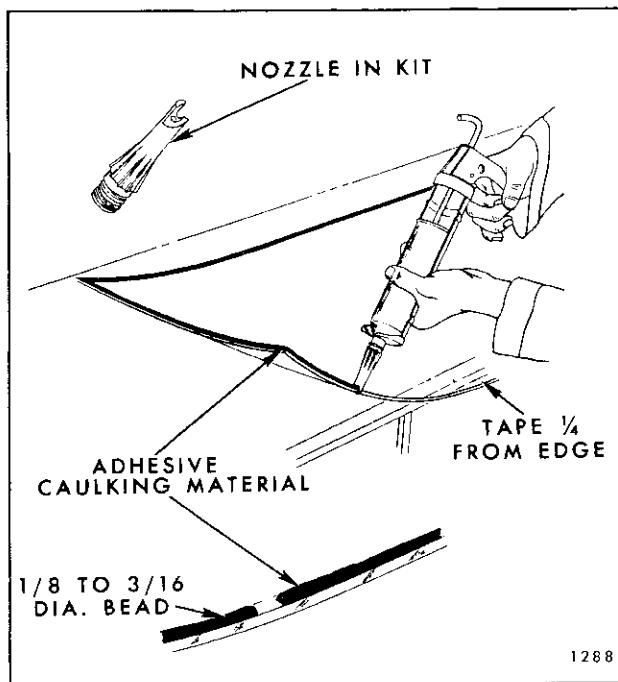

Fig. 4-5—Adhesive Material Application - Short Method
7. Apply a smooth continuous bead of adhesive caulking material around entire inside edge of glass as shown in Figure 4-5. Material should be $1/8"$ to $3/16"$ in diameter.